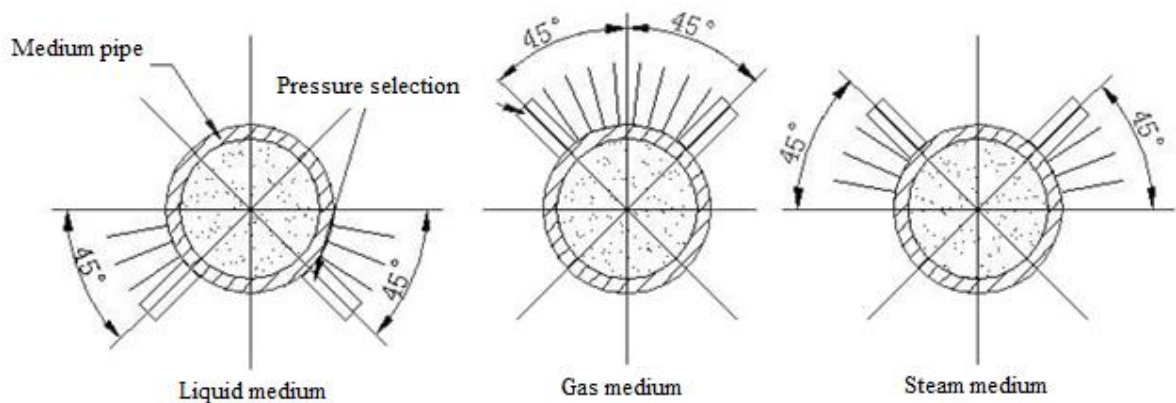

Figure 11 – Pressure tap nozzles location
- Recommended location of pressure tap nozzles (see figure 11).